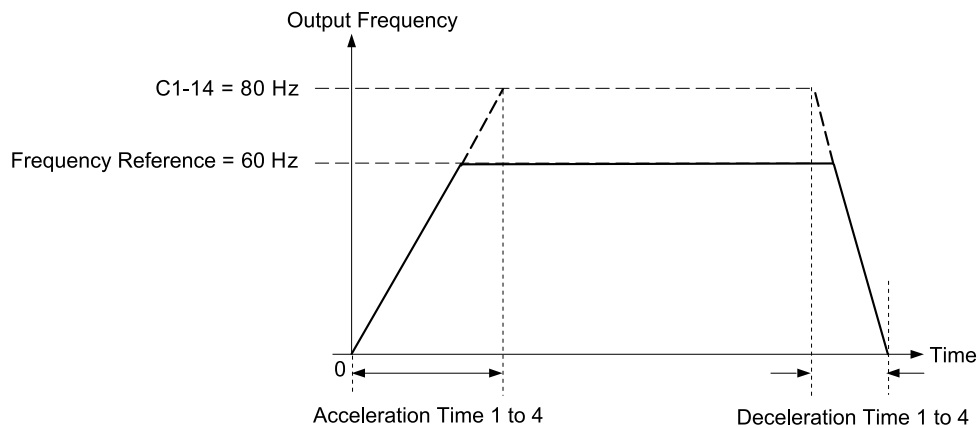

**Figure 2.47 Example 1: Acceleration/Deceleration Rate (When C1-14 = 0 Hz, E1-04 = 60 Hz, and the Frequency Reference is 60 Hz)**
- Figure 2.47 to Figure 2.49 show the accel/decel times when C2-01 to C2-04 [S-Curve Times @ Start/End of Accel/Decel] = 0.00 s.